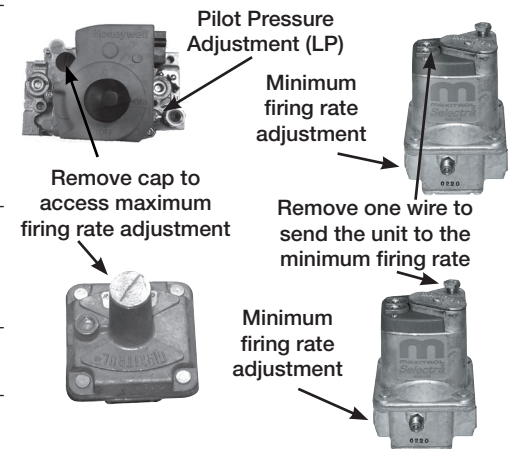

Fig. 2 Separate Regulator and Modulating Valves
- Set the minimum firing rate to achieve a small ribbon of continuous blue flame across the burner. (**Fig. 2**)